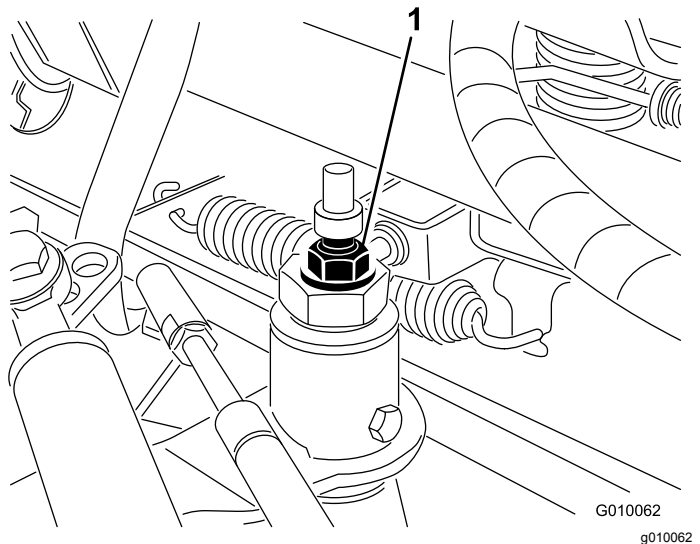

Figure 55
3. Loosen the locknut on the traction adjustment cam (Figure 55).